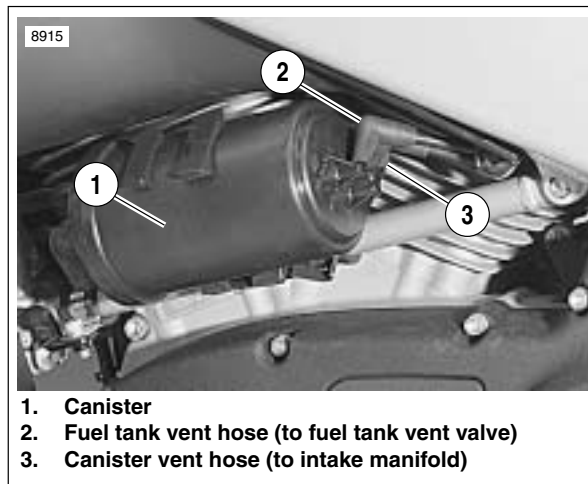

Figure 4-114. Carbon Canister Installation.
1. See Figure 4-114. Label and disconnect the fuel tank vent hose (2) and canister vent hose (3) from the canister.
2. See Figure 4-114. Attach fuel tank vent hose (2) to canister if disconnected.
2. See Figure 4-114. Connect two hoses to the canister. Make sure to push hoses all the way on to carbon canister fittings.